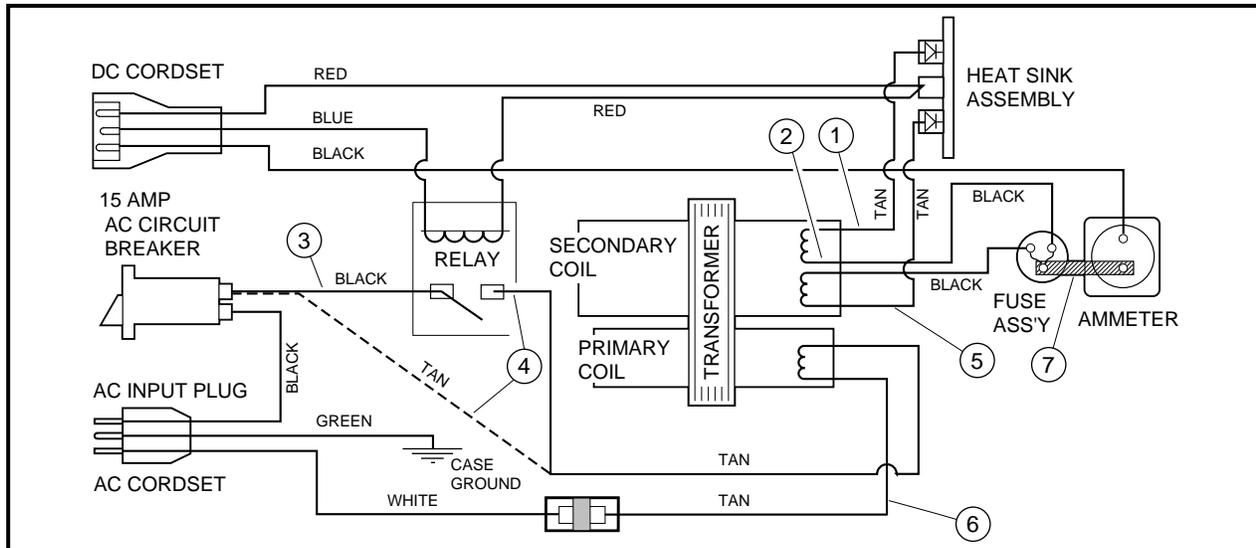

Figure 14-17 Test Transformer Wiring Diagram
- 5.2. Disconnect the tan lead (from the primary coil) and the black lead (from the circuit breaker) from the charger relay. Connect the tan lead to the circuit breaker (**Figure 14-17, Page 14-16**).
6. If the circuit is not complete, check the wiring of the AC cord, transformer primary coil leads, internal AC circuit breaker, and jumper wire (**Figure 14-17, Page 14-16**).
1. Disconnect transformer secondary coil lead Nos. 1 and 5 from the heat sink assembly (**Figure 14-17, Page 14-16**).
3. Remove the black wire (3) from the circuit breaker and disconnect the tan wire (4) from the relay. Connect the tan wire to the circuit breaker (**Figure 14-17, Page 14-16**).
5. If AC line fuse or circuit breaker does not blow, check transformer secondary voltage across lead Nos. 1 and 5 using a multimeter set to 500 volts AC. If measured voltages are approximately 85 volts AC or lower for the secondary coil, the transformer is shorted internally and must be replaced (**Figure 14-17, Page 14-16**). See following **DANGER**.
The PowerDrive battery charger transformer has two coils; a primary coil and a secondary coil (**Figure 14-17, Page 14-16**).
3. Disconnect terminals from transformer (tan) primary leads (4) and (6) (**Figure 14-17, Page 14-16**).
2. Remove the transformer (tan) secondary coil lead (1) from the upper terminal of the heat sink assembly (**Figure 14-17, Page 14-16**). **See following DANGER.**
3. Remove the other transformer (tan) secondary coil lead (5) from the bottom terminal of the heat sink assembly and place the tester clip on the ammeter bus bar (7) (**Figure 14-17, Page 14-16**). Place the continuity leads on each (tan) secondary coil lead. Tester should register continuity. If tester does not register continuity, replace transformer. Be sure the fuse is intact and not blown.
2. Remove black (3) and tan (4) wires from contact terminals of the relay (**Figure 14-17, Page 14-16**). Place continuity tester leads on contact terminals of the relay. Tester should register no continuity. If tester registers continuity, the relay contacts are welded shut and the relay must be replaced.